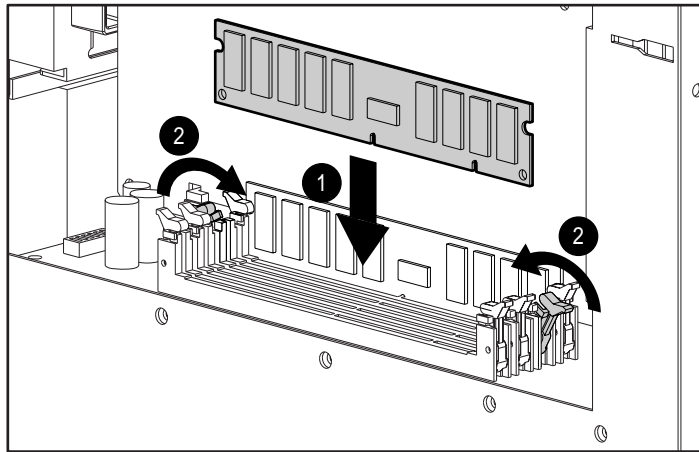

Figure 4-20. Installing System Board DIMM Banks
12. Connect SCSI controller cables. See *Cabling Guidelines for Compaq ProLiant 5500 Servers* for more information on connecting SCSI cables. Figure 4-20 shows an example controller connection.